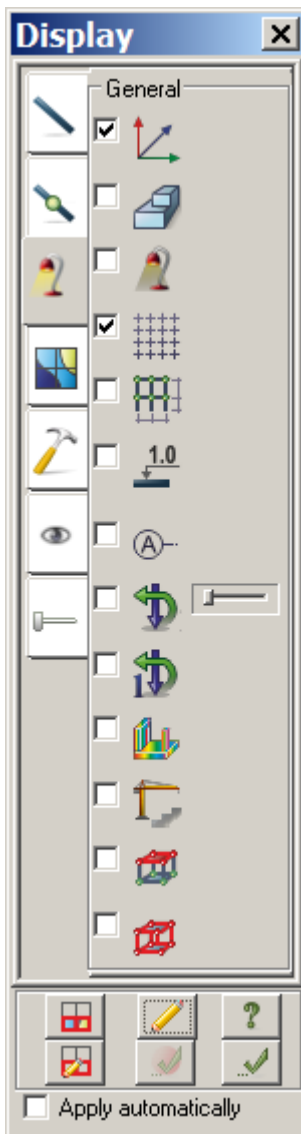

Figure 18.16 **Display** dialog box
- ⇒ On the **Select** toolbar, click **Flags of drawing** button . In the **Display** dialog box (see Fig.18.16), clear the **Loads** check box on the **General** tab.